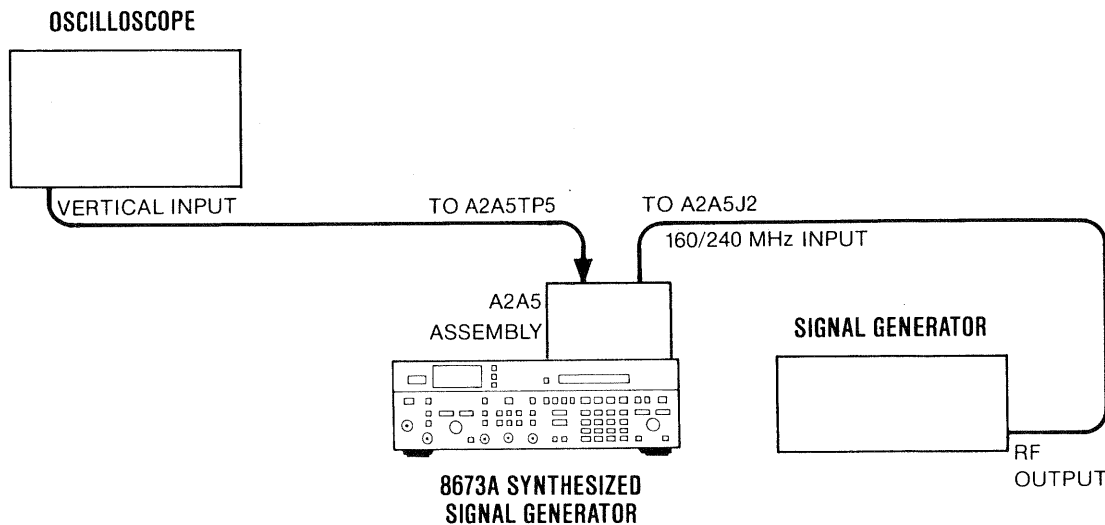

Figure 5-6. 20/30 MHz (LFS) Loop Divider Bias Adjustment Test Setup
7. Connect the equipment as shown in Figure 5-6.